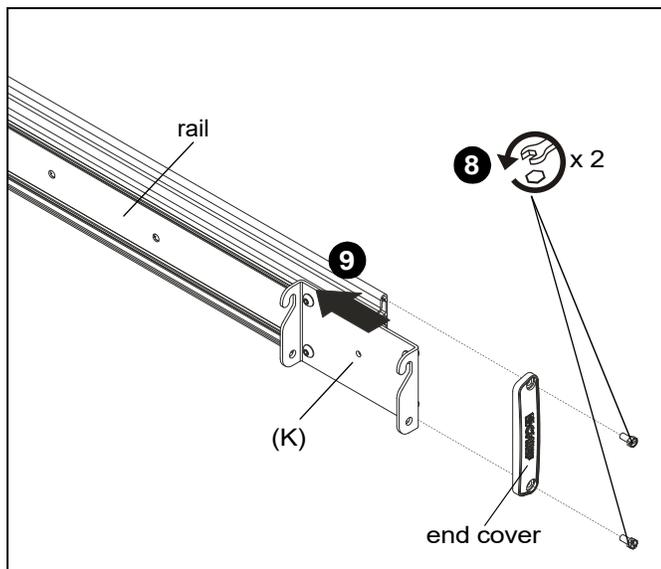

Figure 6
- Remove end cover on one end of rail by removing two screws. (See Figure 6)
- Slide quick connect bracket (K) onto rail and position in desired mounting location. (See Figure 6)